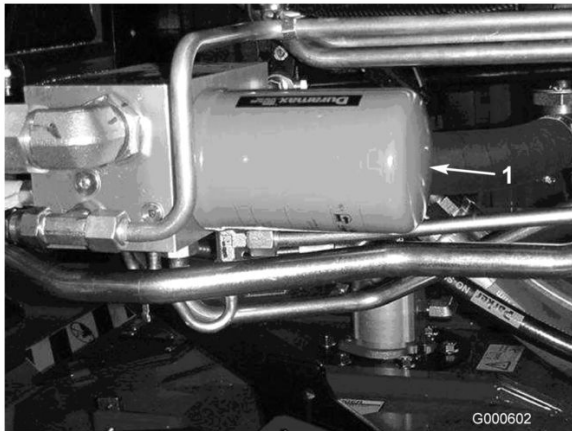

Figure 57
2. Clean the area around the filter mounting area. Place a drain pan under the filter and remove the filter (Figure 56 and Figure 57).